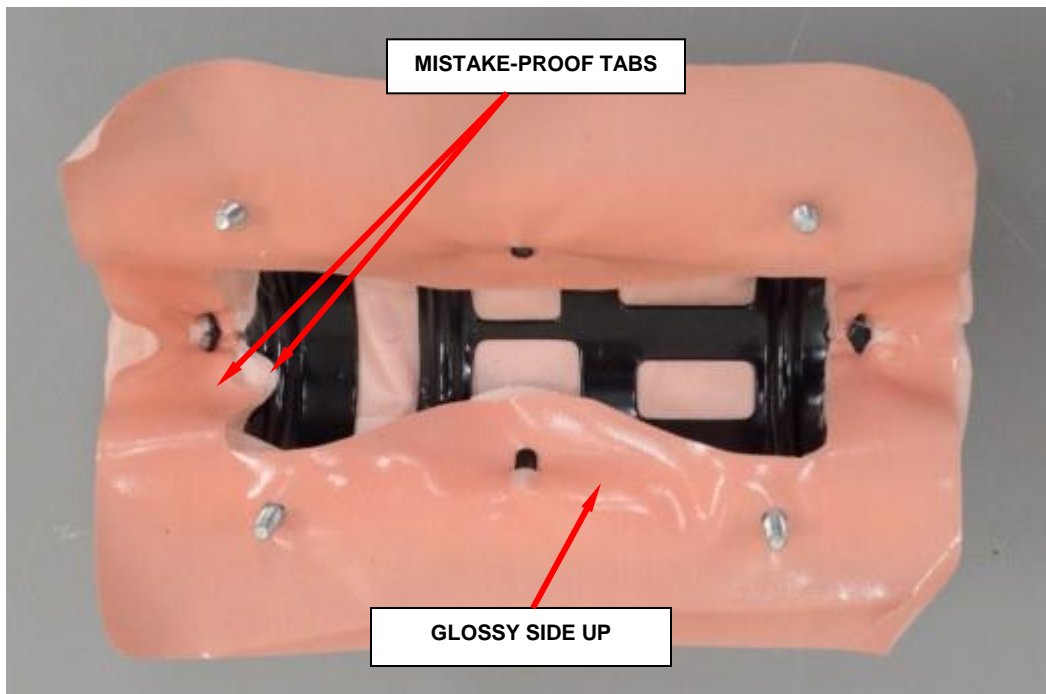

Figure 94 – Fabric Gasket to Cushion (Glossy Side Up)
- i. Place the fabric gasket, glossy side up, onto cushion. Mistake-proof tab should be aligned to the tab on the cushion (Figure 94).